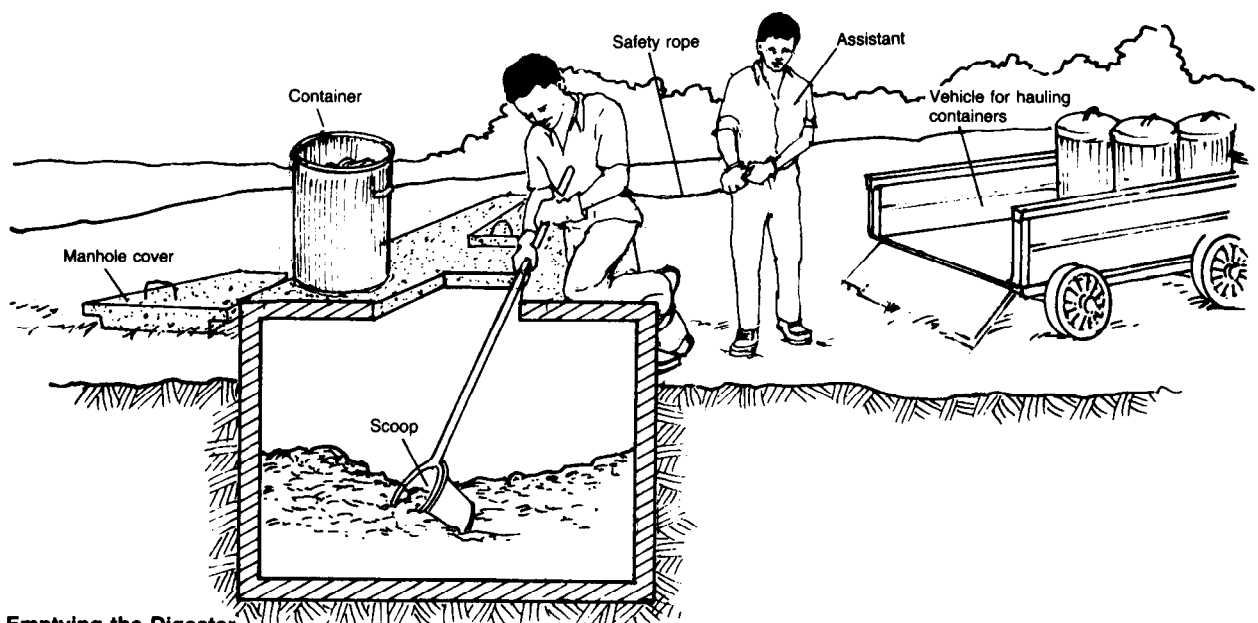

Figure 4. Emptying the Digester
3. Remove most of the decomposed contents of the digester with scoops, buckets and ropes, shovels, or other means. See Figure 4. Leave about 100mm of solids and about half of the liquid material in the digester to enhance gas production in the next load.